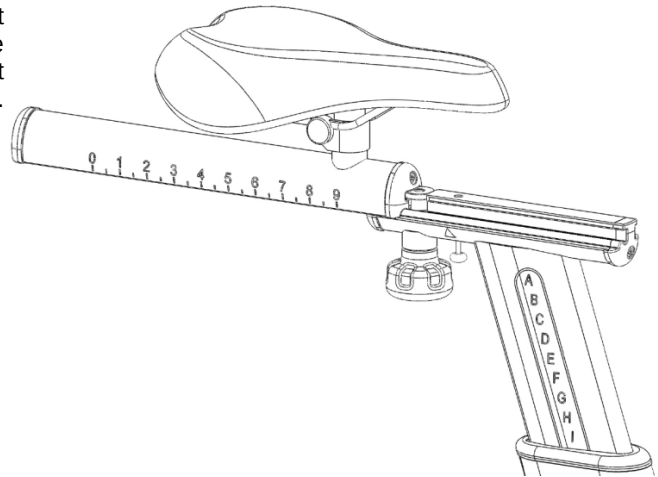

Fig. 17
17. Locate and mount the seat slider assembly onto the seat post by relieving spring tension on the large knob and pulling the small thumb pin located on the underside of the seat post slider (Fig. 17).